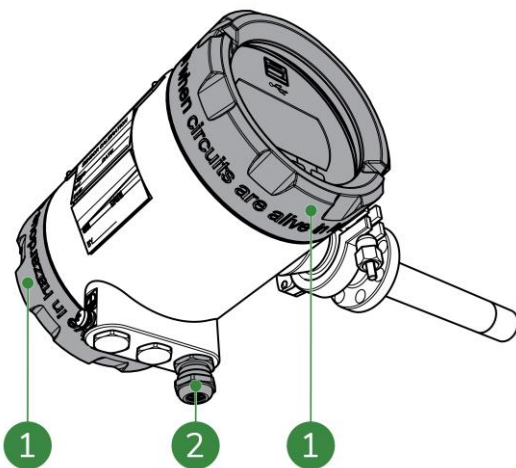

Figure 8-2: SDM lids and cable gland
2. Check if the cable gland (Figure 8-2, pos. 2) is tightened.
3. Check if the front and back lids (Figure 8-2, pos. 1) are tightened.